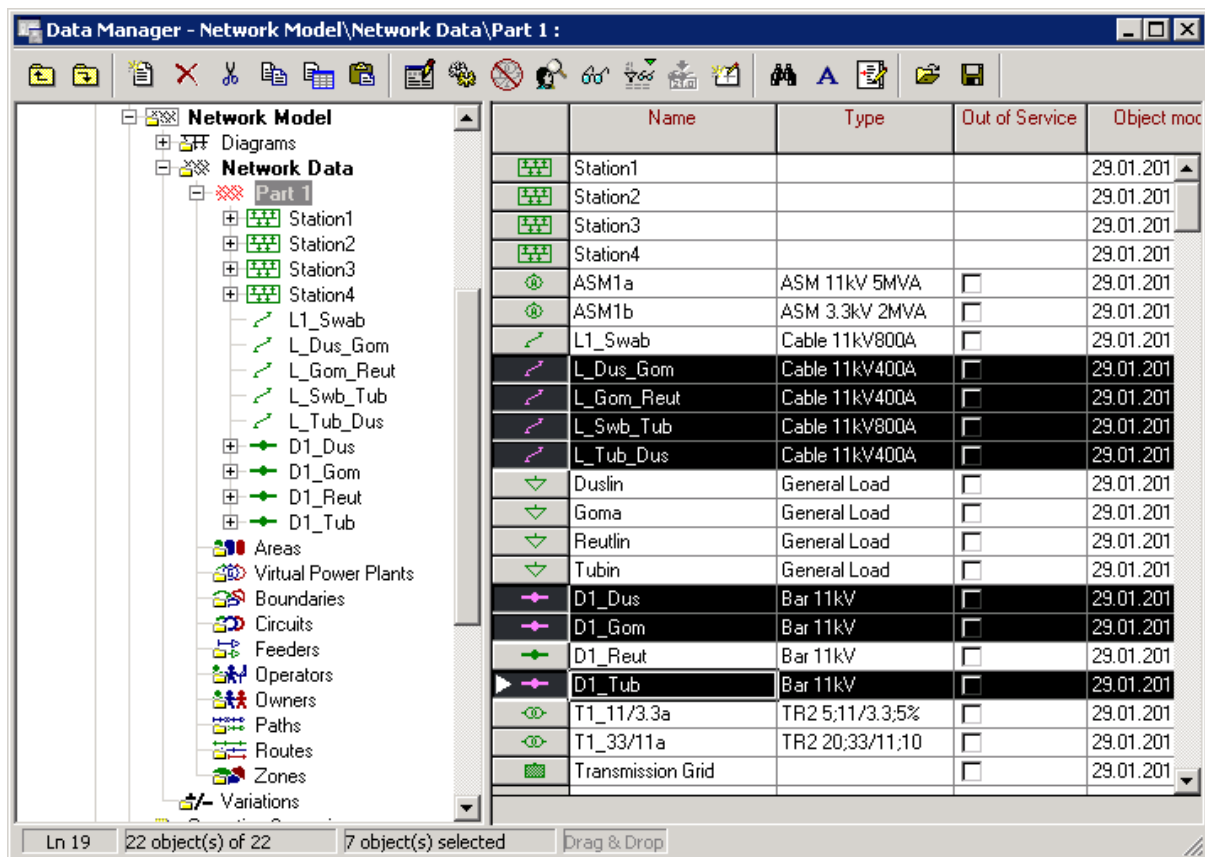

Figure E.4.1: Data Manager window with the new lines and terminals (after editing them)
- In the database tree window left click the grid folder "Part 1" (Figure E.4.1).
The browser shows now amongst other parameters, the names and types of the elements, as in Figure E.4.1. The types of the three new terminals ("Terminal", "Terminal(1)", and "Terminal(2)") are not set yet. This shall be changed now: